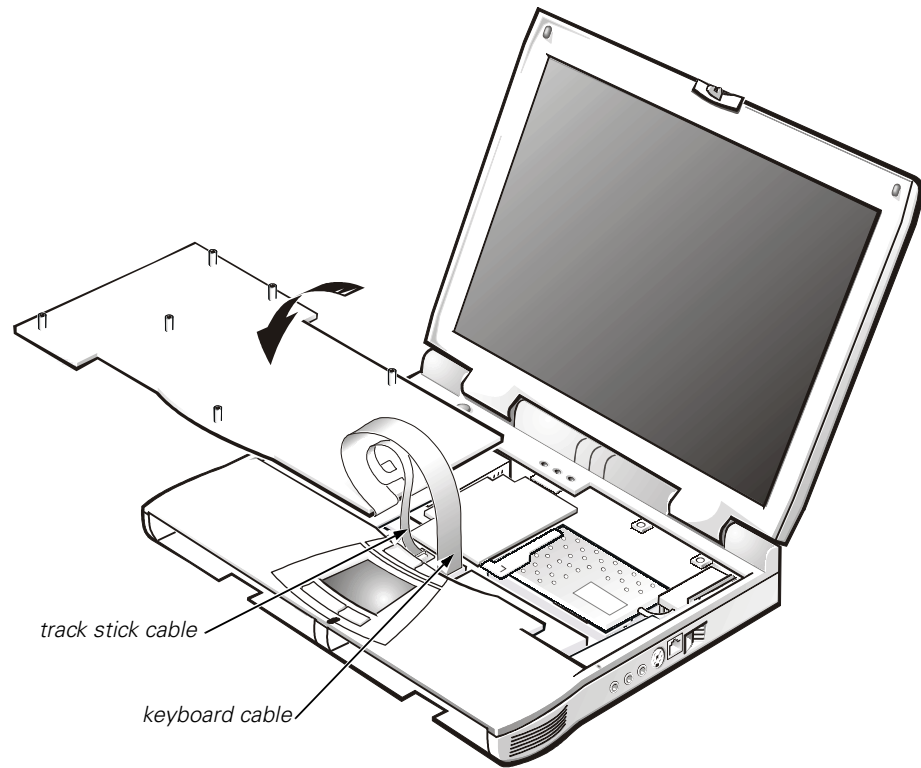

Figure 11. Keyboard and Track Stick Cables and Connectors
7. Rotate the keyboard over the left edge of the computer (see Figure 11).
1. Place the keyboard on the left side of the computer with the keys face down (see Figure 11).